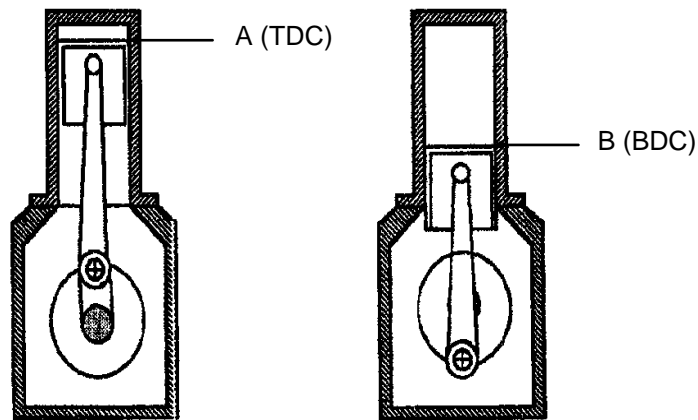

Fig. 4
- These two dead centres, which are known as “bottom dead centre” (BDC) and “top dead centre” (TDC) respectively (Fig. 4), mark the limits of the piston’s travel.